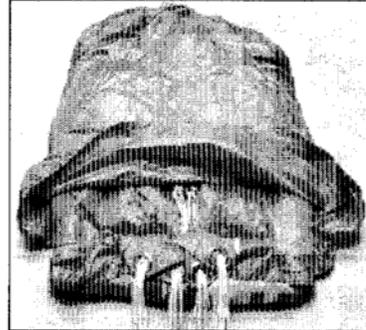

Figure 5
**Step 12** Fold the tail surface back towards the top of the canopy and “S” fold the slider so that the grommets are even with the bottom of the stack. Now fold the tail fabric back towards the lines so that it covers the slider stack. *Figure 5*